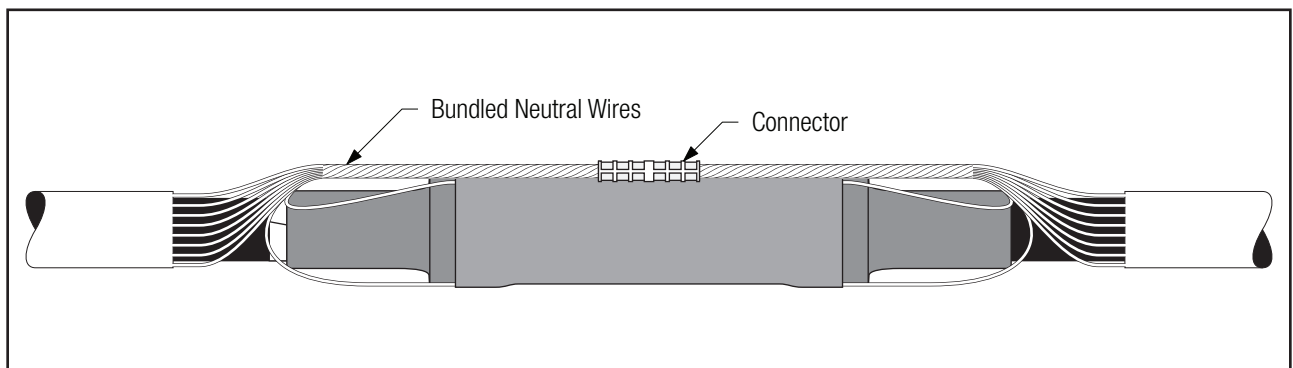

Figure 17
7.1 Connect neutral wires and splice wires together using an appropriate “C,” “H” or butt type connector (*Figure 17*).